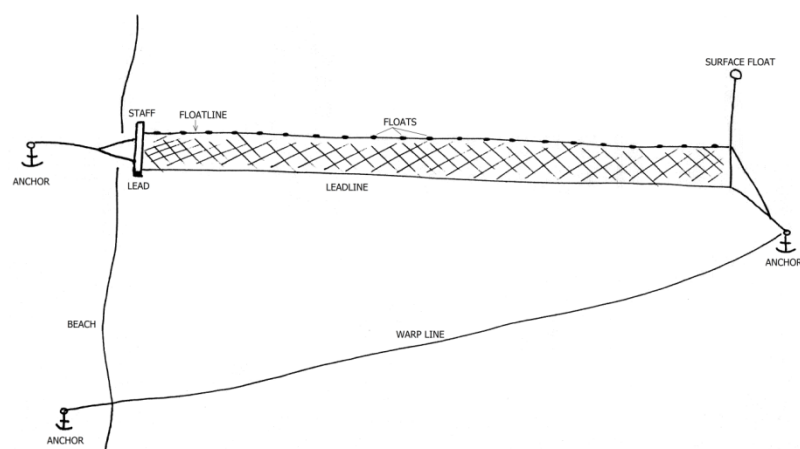

Figure 4. Beach anchored gillnet (courtesy of M. Tork, U.S. National Marine Fisheries Service).
*Beach Anchored Gillnet:* A vertical hanging net set from, and anchored to, the beach (see FIGURE 4).